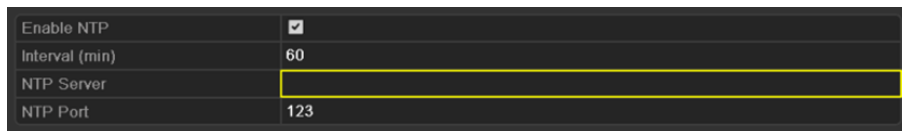

Figure 11. 11 NTP Settings Interface
2. Select the **NTP** tab to enter the NTP Settings interface, as shown in Figure 11. 11.